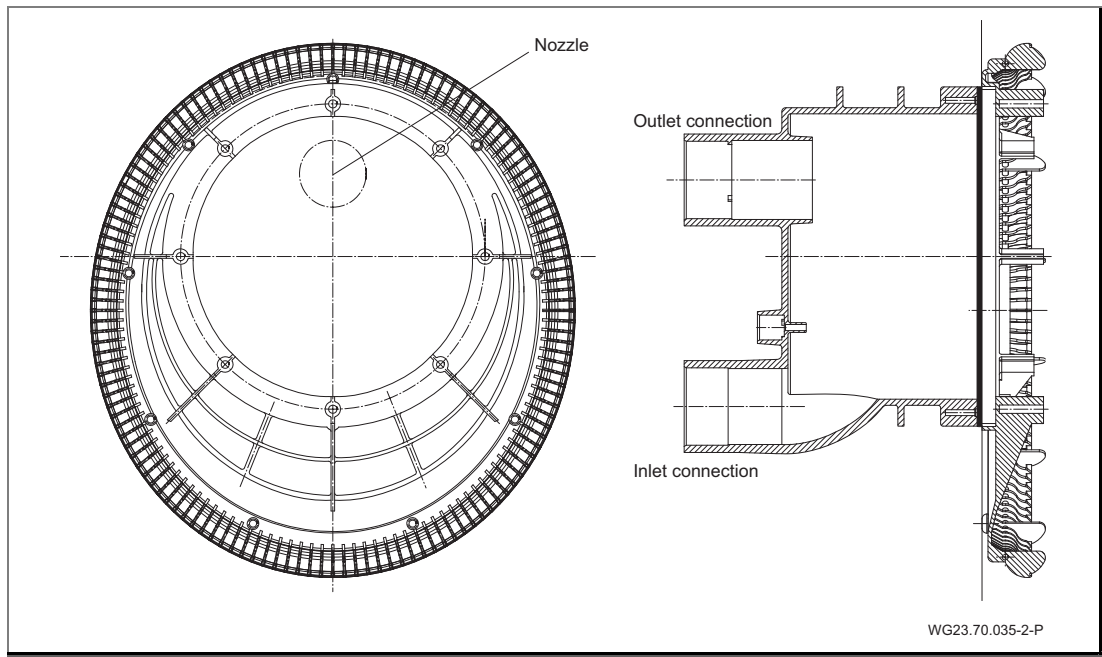
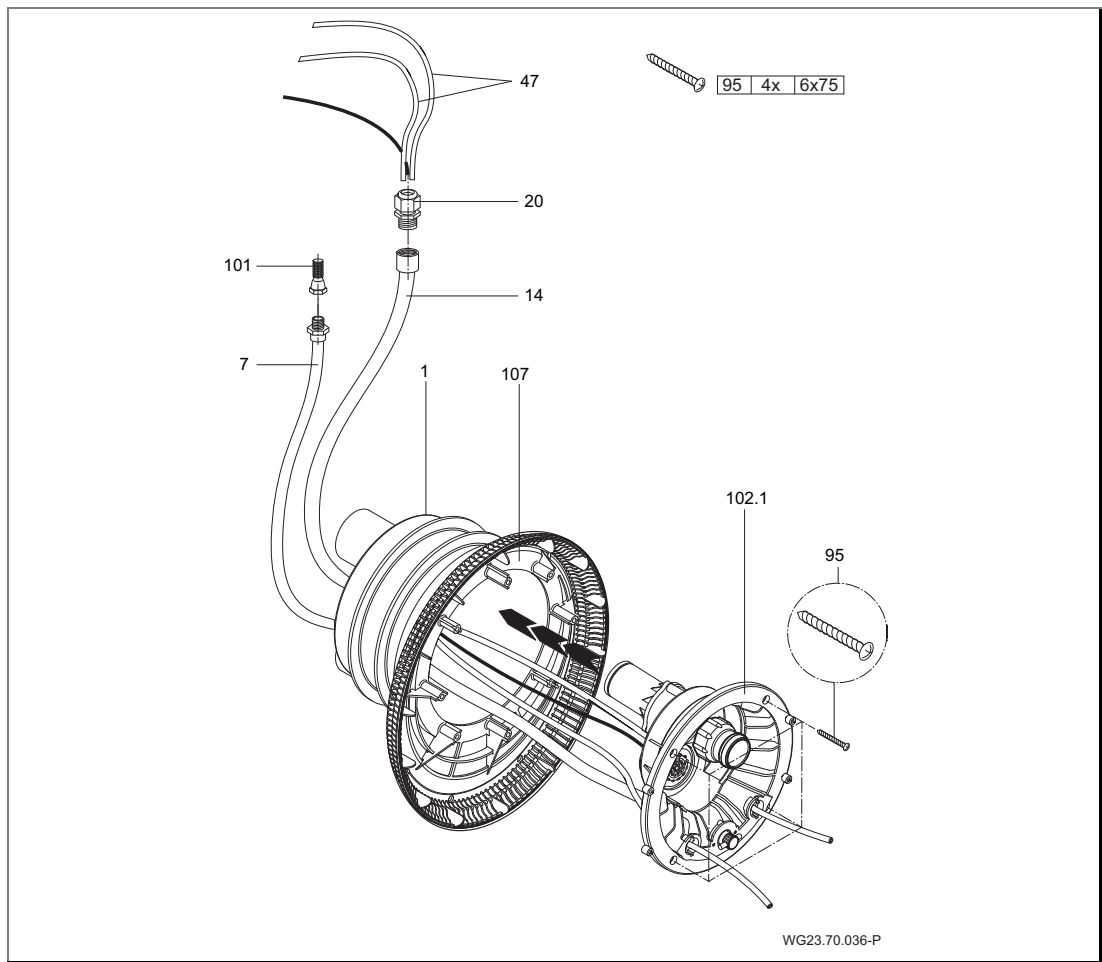
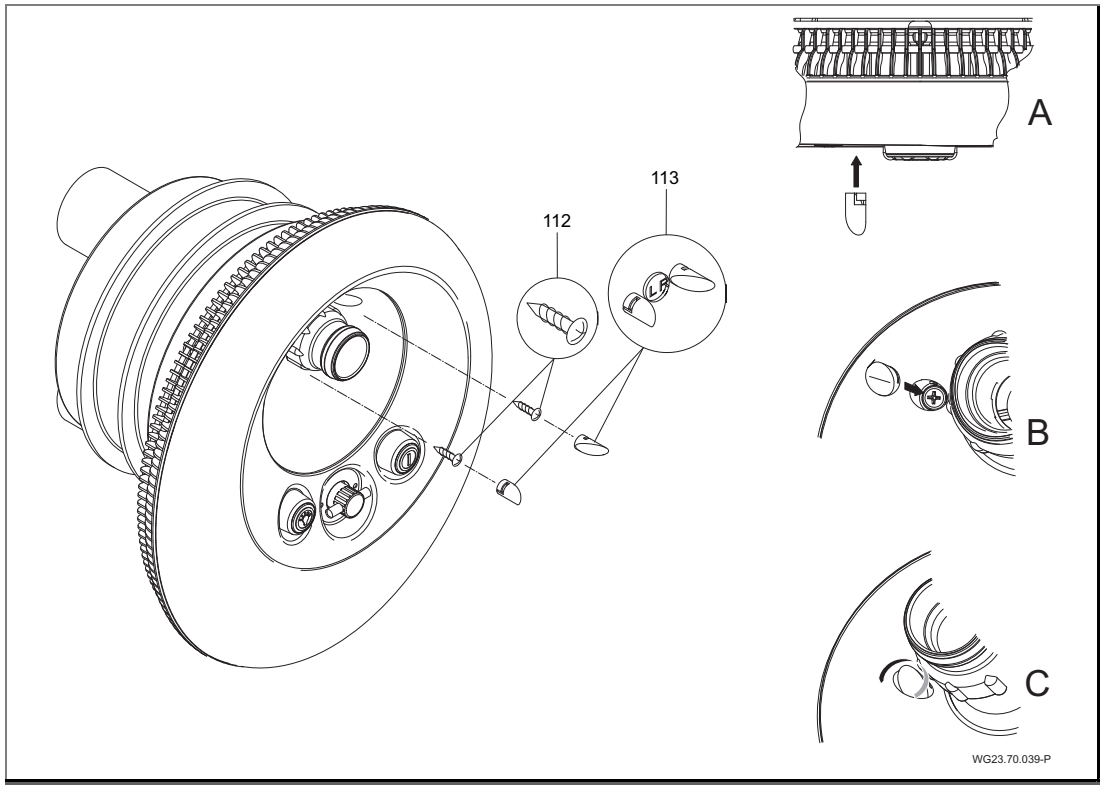

Fig. 16
Fig. 17
Fig. 20
2. Position the suction housing (107) on the clamp ring. Pay attention to the mounting position. (Fig. 16)
3. Position the nozzle housing (102.1) on the main housing (1).
4. Lead the pneumatic hoses (47) and floodlight cables through the protective conduit (14) and seal with the cable gland (20).
5. Attach the air pipe to the air regulator (21), assembled on site, with a clamp (8).
6. Attach the nozzle housing (102.1) to the main housing (1) with four tapping screws (95). (Fig. 17)
10. Attach the decorative caps in the light cover as in Fig. 16. Use the correct decorative cap for left (L) and right (R). (Fig. 20)
1. Loosen cable screw (20).
4. Unlock cover (113). See "Fig. 20" on page 34.
5. Loosen screws (112) and remove lighting cover (110).
6. Loosen screws (49) and remove stainless steel cover (93).
7. Loosen screws (95) and remove suction housing (107).
8. Loosen screws (52) and remove support ring (28) and support ring seal (27).